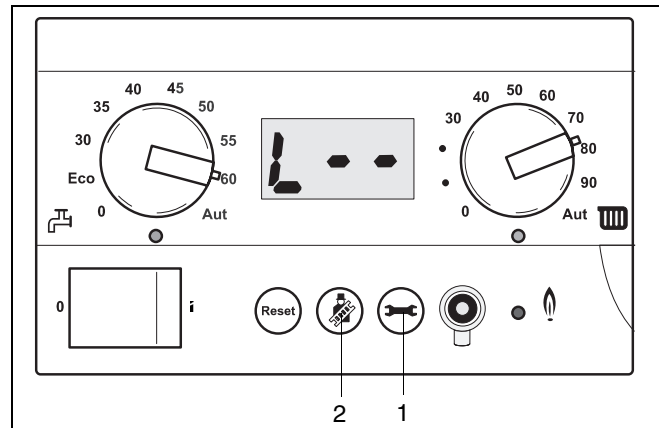

fig. 41 Maximum heating capacity
- Press the chimney sweep button and the service button at the same time until "L--" (→ fig. 41) appears in the display.
- Confirm the setting by pressing the service button two times (→ fig. 41, item 1).